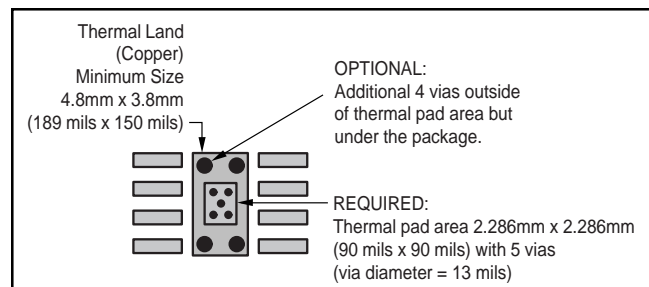

FIGURE 11. 8-Pin PowerPAD PCB Etch and Via Pattern.
2. Prepare the PCB with a top-side etch pattern, as shown in Figure 11. There should be etch for the leads as well as etch for the thermal land.
3. Place the recommended number of plated-through holes (or thermal vias) in the area of the thermal pad. These holes should be 13 mils in diameter. They are kept small so that solder wicking through the holes is not a problem during reflow. The minimum recommended number of holes for the SO-8 PowerPAD package is 5, as shown in Figure 11.
4. It is recommended, but not required, to place a small number of additional holes under the package and outside the thermal pad area. These holes provide additional heat paths between the copper thermal land and the ground plane. They may be larger because they are not in the area to be soldered, so wicking is not a problem. This is illustrated in Figure 11.